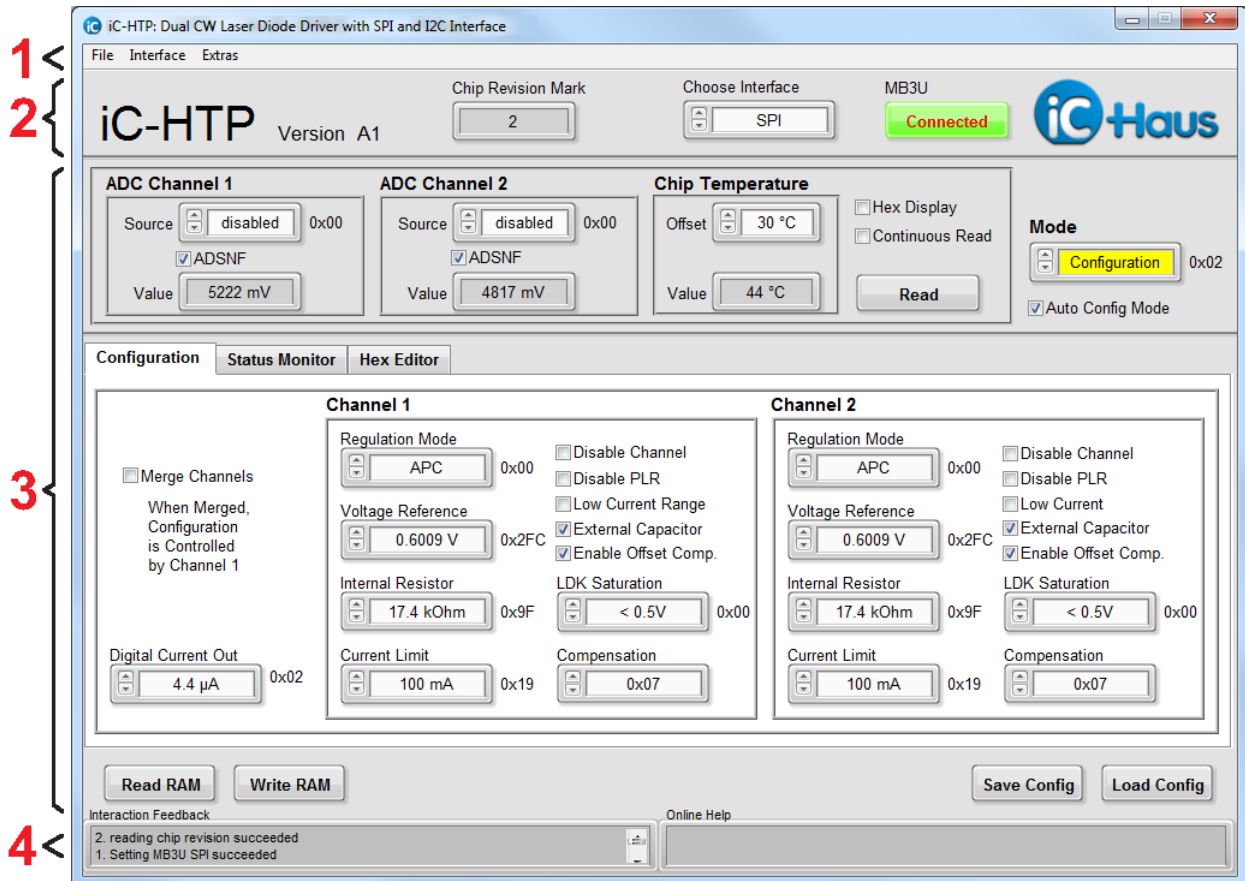

Figure 3: iC-HTP evaluation software
3. After installation the executable HTP1SO\_gui\_xx.exe will be available in the selected working directory. Figure 3 shows a screenshot of the evaluation software.